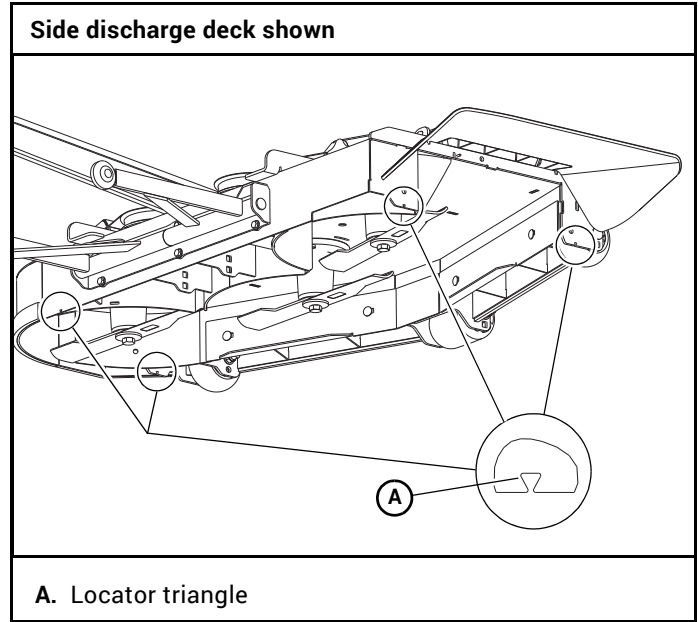

Figure 6-1
3. **Side Discharge Decks** – Place 3" high deck support blocks (two stacked 2" x 4" blocks can be used to create a 3" [76.2 mm] high support) at the four corners of the deck marked with the locator triangle as shown. Figure 6-1